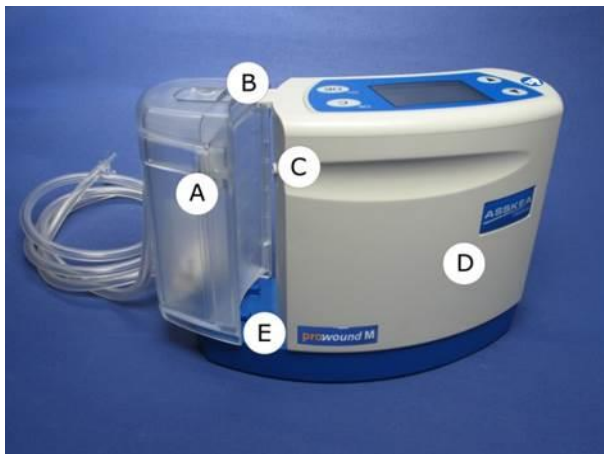

Fig.4:
4. Press on the locking mechanism at the top of the container (Fig. 4 (B)) and keep it pressed while pulling the disposable exudate container horizontally away from the device.